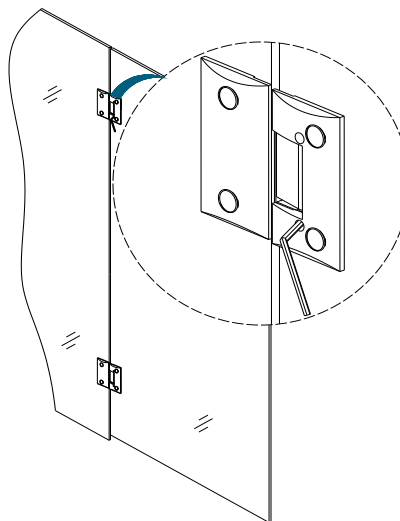

Figure 2
2. The hinges are set to overclose at 172°. You can change this angle by using the adjustment screws on the hinge plate. (Figure 2)